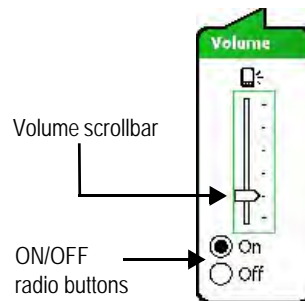

Figure A.9 Nomad Scrollbar and Radio Buttons
- 2 Referring to Figure A.9, do one of the following.